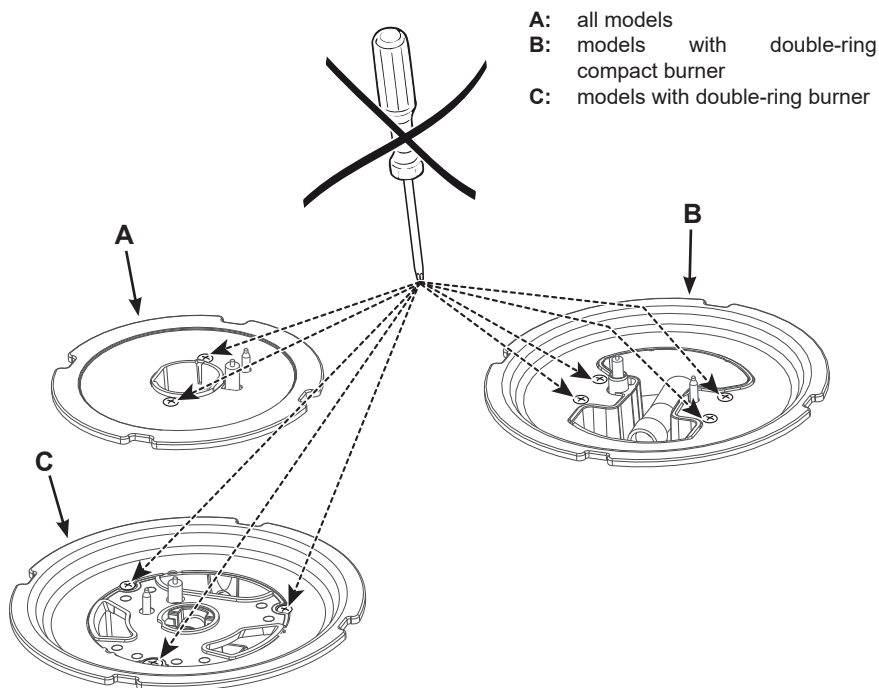

Fig. 3.1
**NEVER** unscrew the burner plate fixing screws (fig. 3.1).